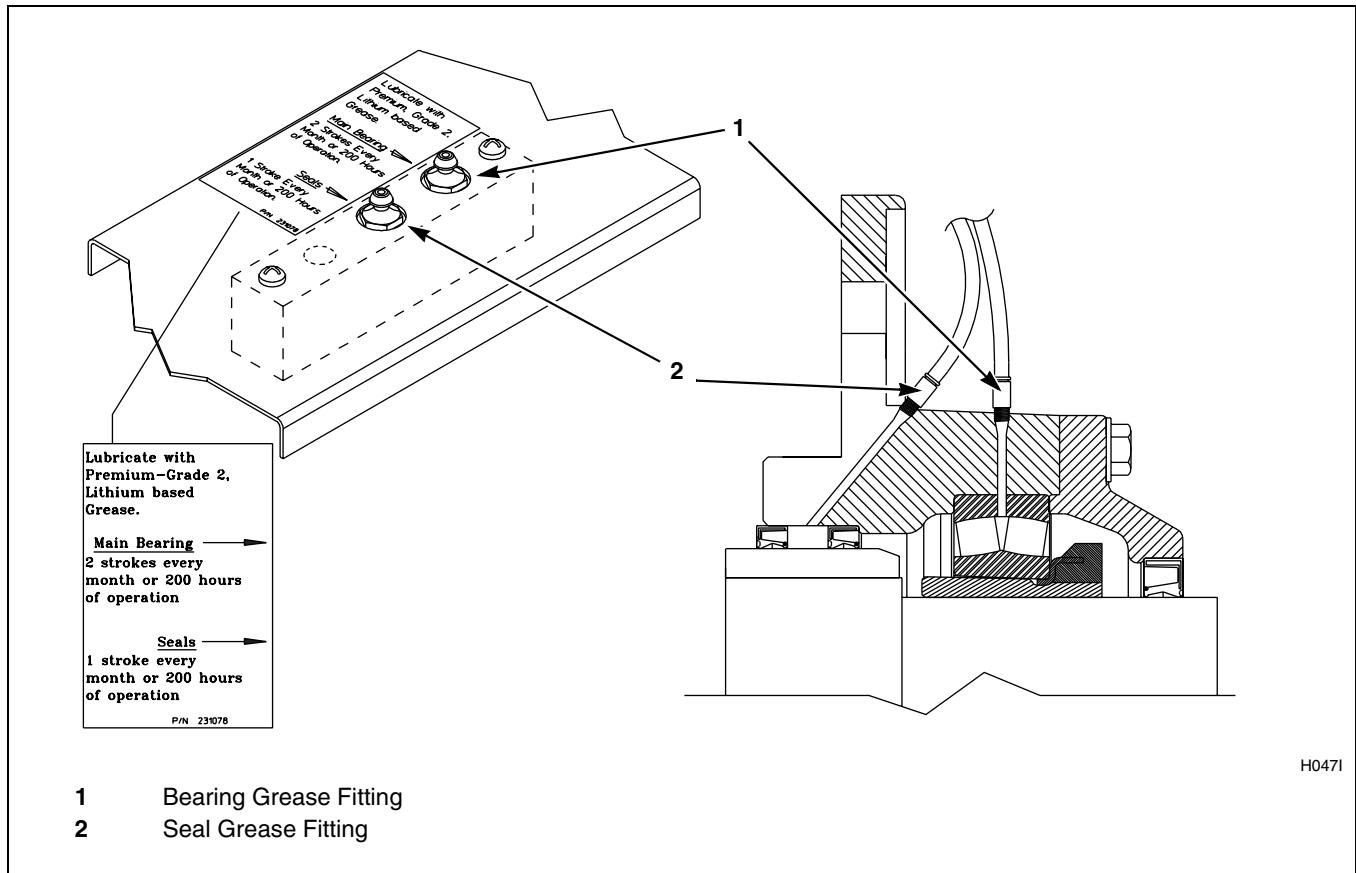

Figure 12
2. **For 80 pound capacity models only**, lubricate bearings and seals each month OR after every 200 hours of operation. Refer to *Figure 12*.